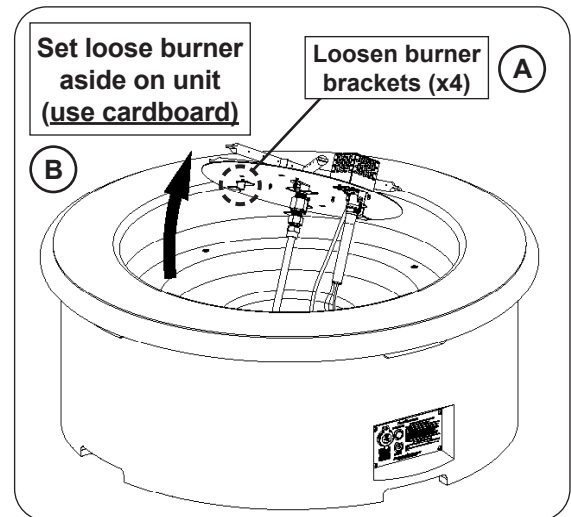

Fig. 29-2 Gain access to interior
2. Use a  $\frac{5}{16}$ " nut driver to loosen the 4 screws found on the burner assembly (see Fig. 29-2, A).
3. Carefully lift out the burner just enough to set it off to the side (see Fig. 29-2, B).